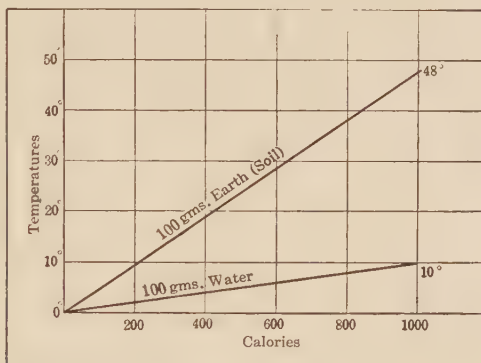

FIG. 14. — The same amount of heat that warms 100 grams of water 10° will warm 100 grams of earth nearly 50° .
12. Specific heat in everyday life. If equal quantities of heat are given to equal weights of water and of earth, the earth, because of its lower specific heat, will be warmed to a higher temperature, Fig. 14. For this reason, the land gets warmer than the water of the ocean or lake when under the direct rays of the sun. This is important in modifying climate, as it causes winds to blow from the cooler water in hot weather, and the water gives out much of its stored heat in cold weather, thus moderating the climate of nearby land.